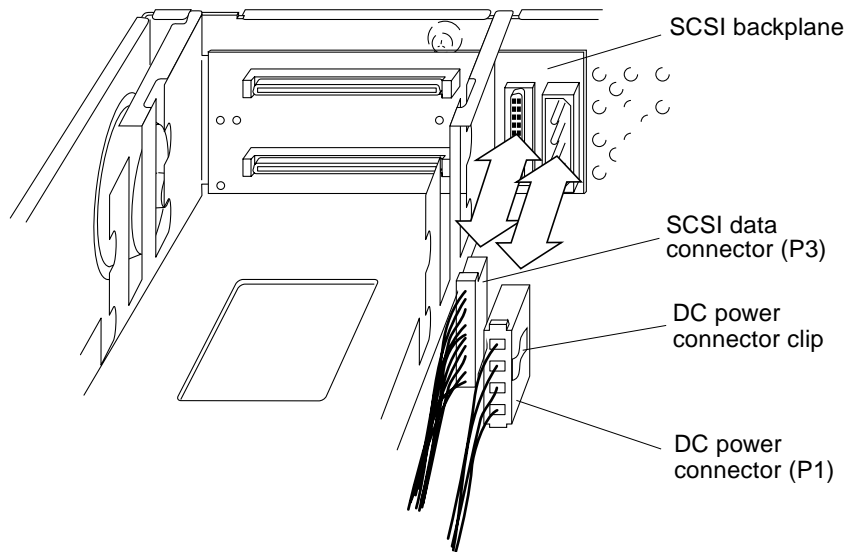

FIGURE 8-31 SCSI Backplane, SCSI Data, and DC Power Connectors
6. Press the plastic connector clip and disconnect the DC power connector from the SCSI backplane (FIGURE 8-31).
2. **Connect the following cables to the SCSI backplane (FIGURE 8-31):**